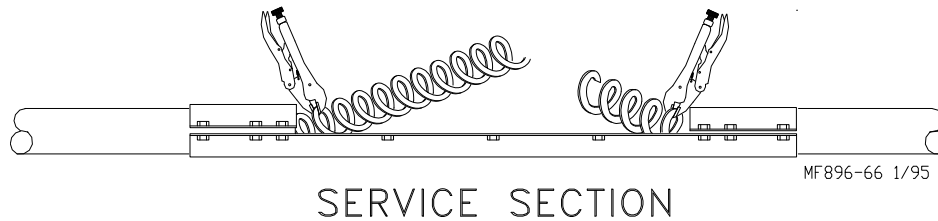

Figure 64. Stretching the auger
6. Use locking pliers to hold on end of the auger in place while stretching the auger, **see Figure 64.**
10. Pull another 18" [460 mm] of auger and install another set of locking pliers to keep the auger from springing back into the auger tube, **see Figure 64.**